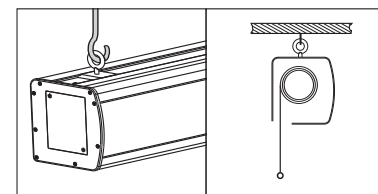

Figure2
2. Hang the screen on the hook, check if the hang is safe enough, make sure the screen will not drop down from the hooks. (Figure2)